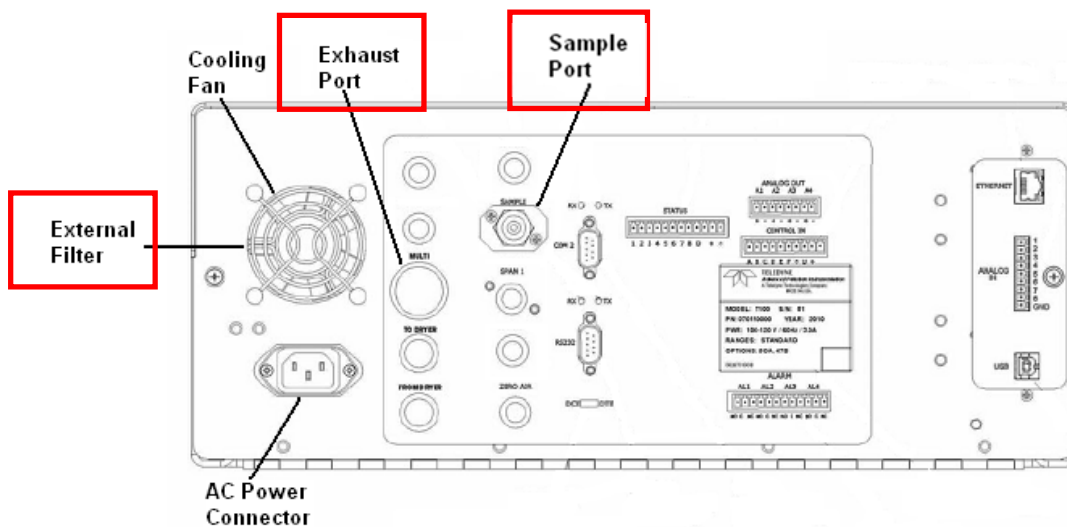

Figure 1 T200UP Rear Panel
1. Remove the exhaust port line from the instrument rear panel (see **Figure 1**).